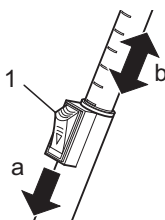

Fig. 4
4. Adjust the length of the telescopic tube. To do this, press the telescopic tube lock (Fig. 4/1) forwards (Fig. 4/a). Then pull the telescopic tube by the handle (Fig. 1/1) to the desired length (Fig. 4/b). To lock it, release the telescopic tube lock when you let go. You will hear an audible click.